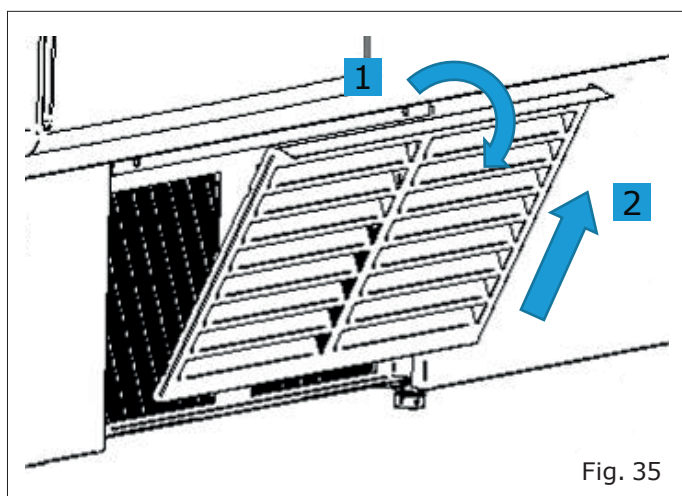

Fig. 35
- Remove the condenser grill by removing the knobs that secure it and follow the instructions (Fig. 35).